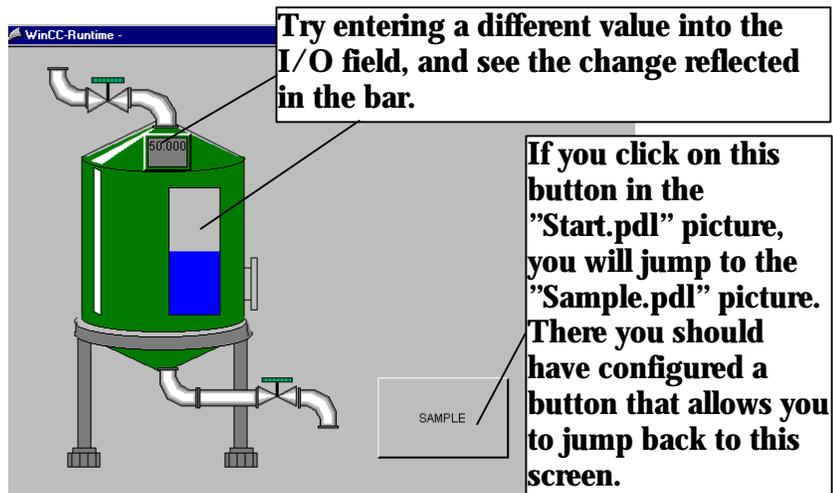

Figure 2.28 WinCC Project "QckStart"; Runtime Picture
5. To set the Start picture select the picture you just created in the Graphics Designer by clicking "Browse", then select "START.PDL" and click OK. Next set the "Title", "Maximize", "Minimize" and "Adapt Picture" flags under Windows Attributes. See Figure 2.28
Figure 2.28 inCC Project "QckStart"; Setting Runtime Conditions